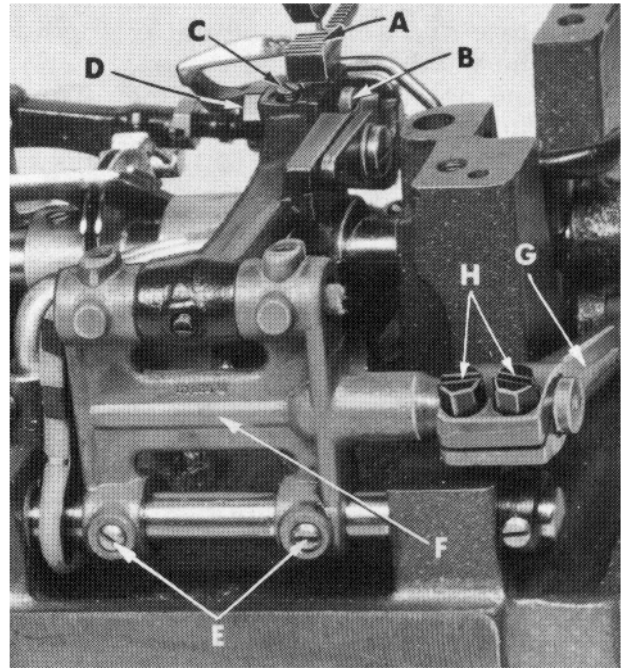
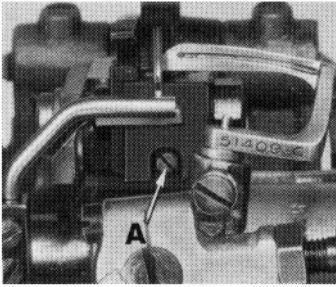

Fig. 4
Fig. 5
Set the feed dog (A, Fig. 4) in the throat plate so there is equal clearance on all sides. See that the tips of the teeth extend 1/2 to 1 full tooth above the throat plate and are parallel with the throat plate at high point of travel. Height can be set by loosening feed dog attaching screw (B) and adjusting feed dog supporting screw (C). Parallelism can be set by loosening nut (D) and rotating feed dog holder adjusting screw (A, Fig. 5), as required and retighten nut. Side clearance can be set by loosening screws (E, Fig. 4) and moving feed rocker (F) to the right or left, as required.
**NOTE:** Whenever the feed rocker has been moved, always check to assure that the feed rocker arm (G) does not bind.